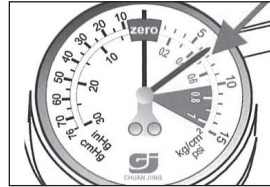

Figure 10
3. The "OUT" pressure gauge indicator should move clockwise (Figure 10).